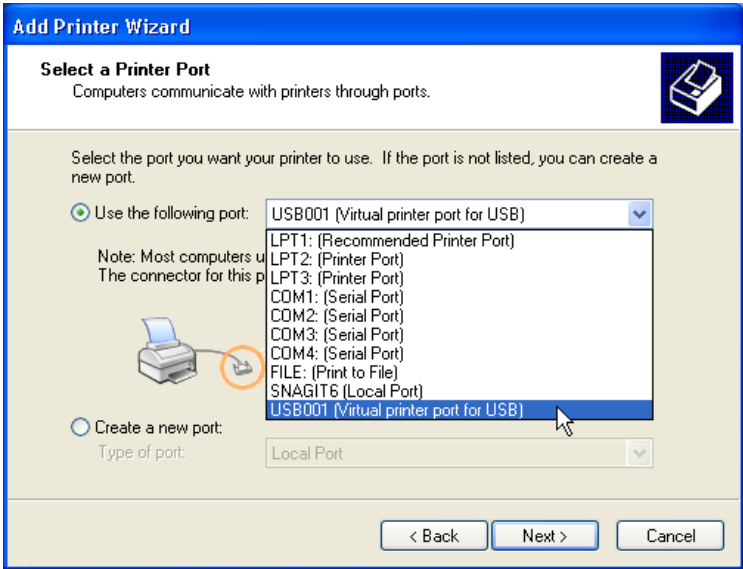

Figure 3-56 Select Printer Port
7.) Select the corresponding Printer Port (e.g., Figure 3-56 = USB001) and click NEXT.